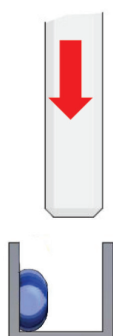

FIG 8.
- When panels are correctly aligned, remove Panel 1 (**FIG 7**), and run a thick continuous line of silicone down the inside of the wall channel (**FIG 8**) and apply liberally in the wall to floor channel join and along the floor channel to the length of the glass panel.